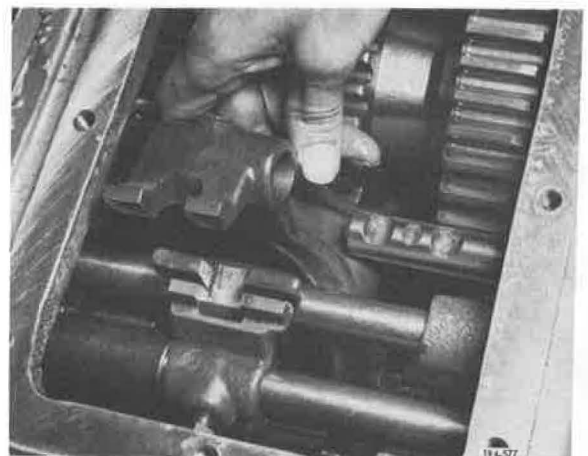

Figure 5-681. Sliding Shift Rail Forward
16. Slide fourth/fifth speed shift rail forward, and at the same time remove fourth/fifth speed shift fork. See **Figures 5-681 and 5-682**.